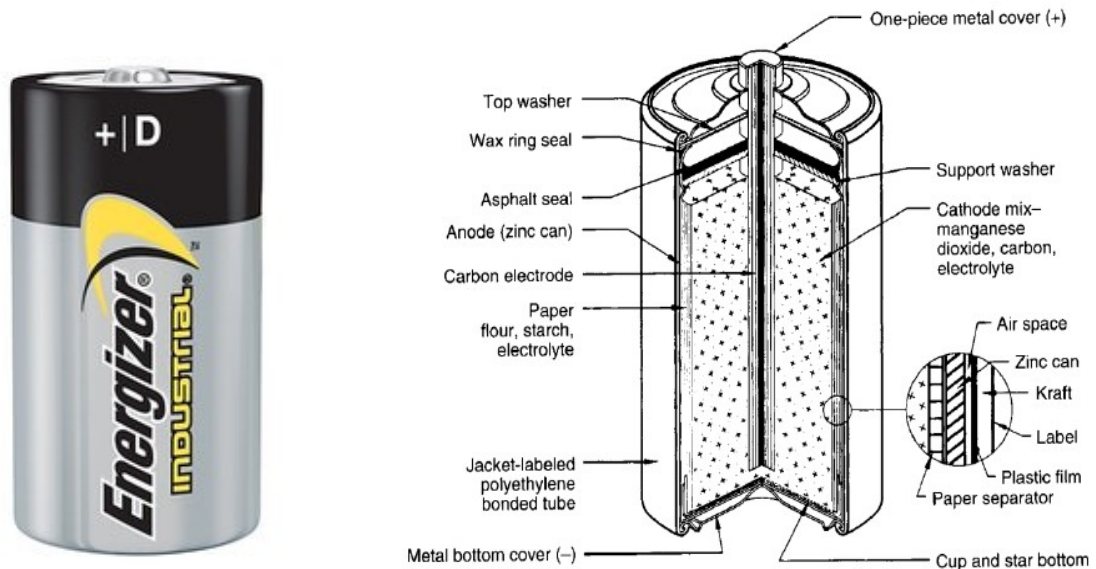

Figure 9: Internal Structure of a Carbon-Zinc Battery
- b. Show and discuss Figure 9. Chemicals, called electrolytes, inside the battery react with the electrode material to produce electricity. Electrodes conduct the electricity to the battery terminals.